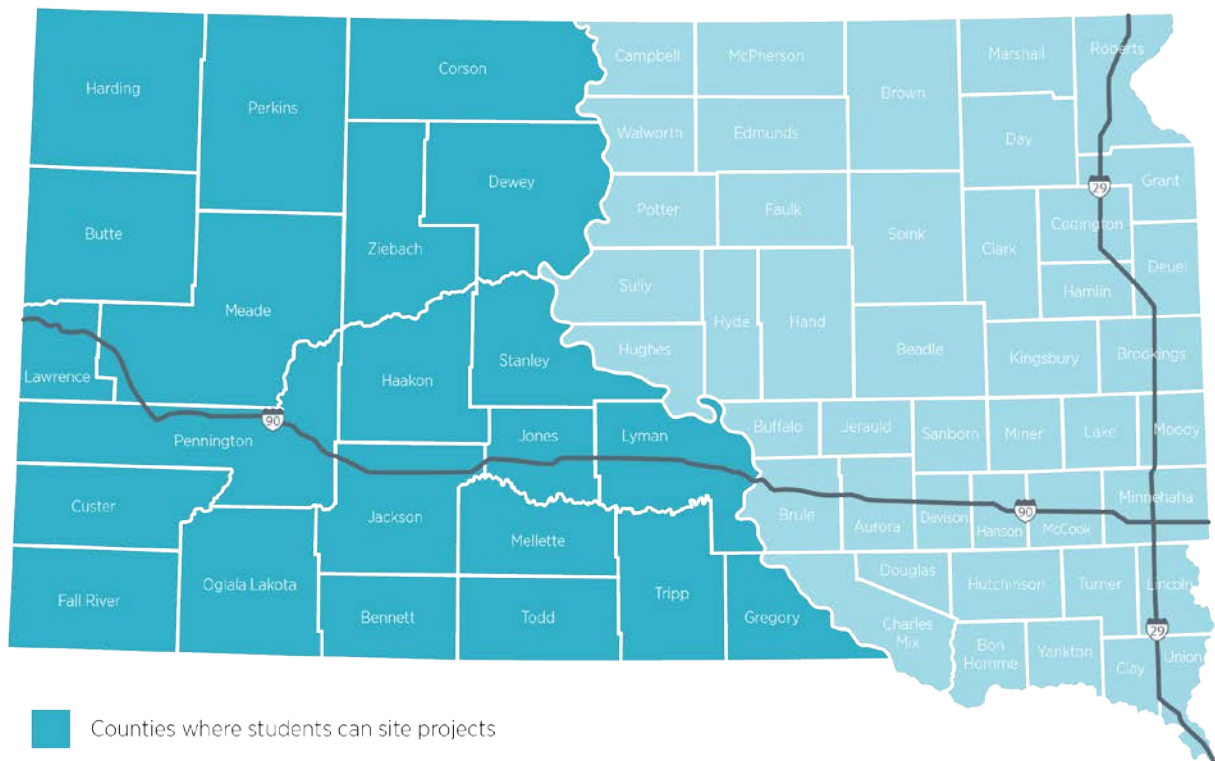

Figure 10. Map of South Dakota
1. Select a site within the area highlighted on the map in Figure 10.